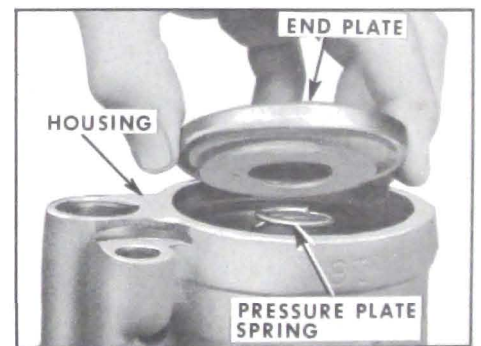

Figure 8-76—Inserting End Plate in Housing
10. Place pressure plate spring in center groove in pressure plate. See Figure 8-76. Lubricate outside diameter and chamfer of end plate with petroleum jelly and insert in housing.